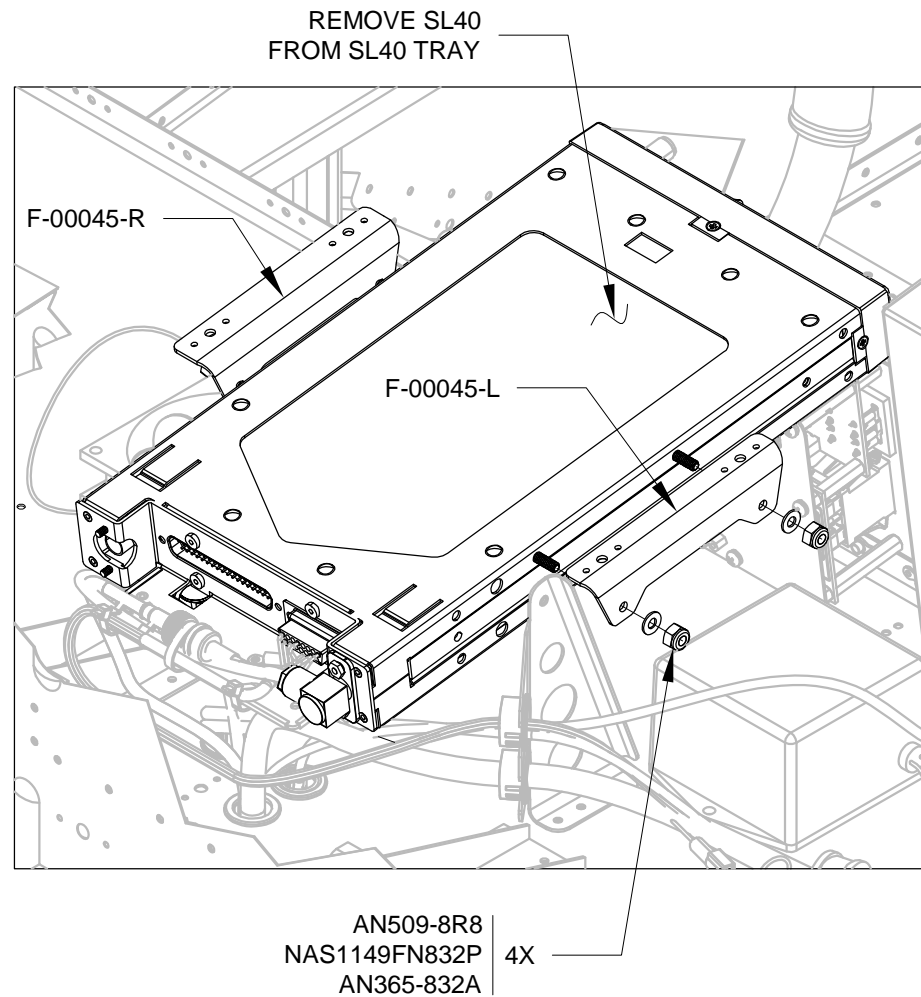

FIGURE 1: INSTALLING THE ADS-B BRACKETS
Step 1: Remove the AV GARMIN SL40 Com Radio from its tray. See Page 42C-07 and Figure 1.
Step 2: Install the F-00045-L & -R SkyView ADS-B Brackets to the AV GARMIN SL40 Com Radio Tray using the hardware called out in Figure 1.